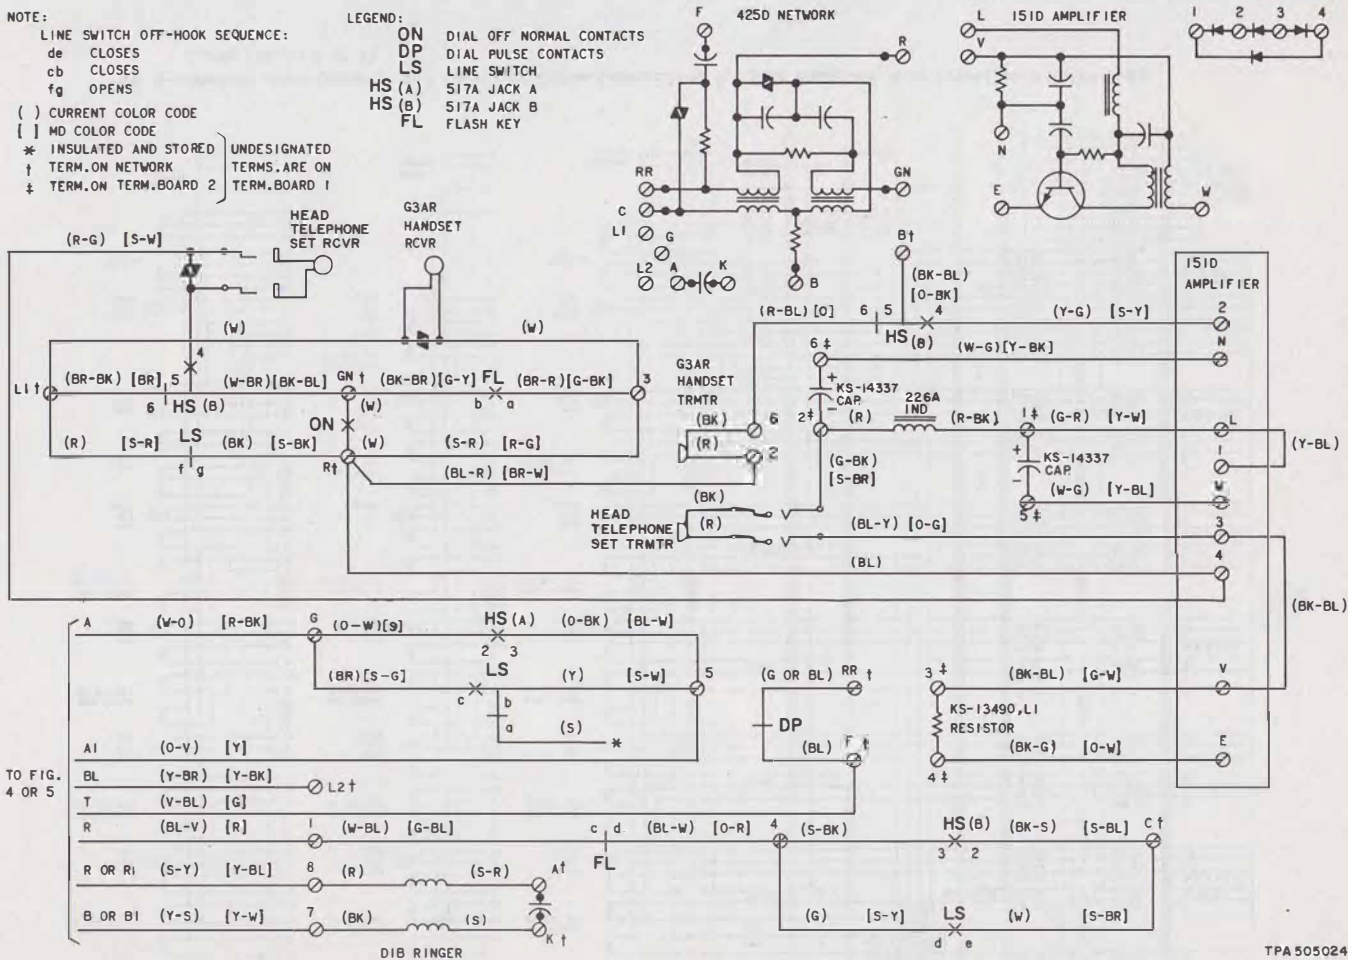

Fig. 3—Early 636- and 637-Type (MD) Telephone Set, Connections (Amplifier Wired for Polarity Guard Diode Protection)
2.03 Replacement or substitution of the key in the first module may require wiring changes as shown in the notes for Fig. 3 and 4.